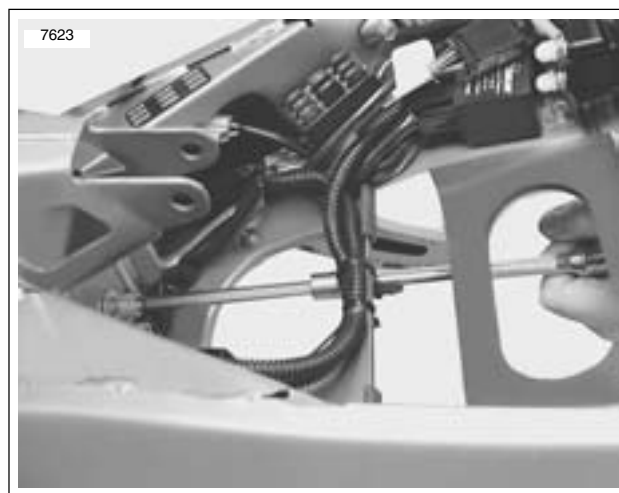

Figure 3-14. Removing Rear Motor Mount Bolts
28. See Figure 3-14. Remove rear motor mount bolts.